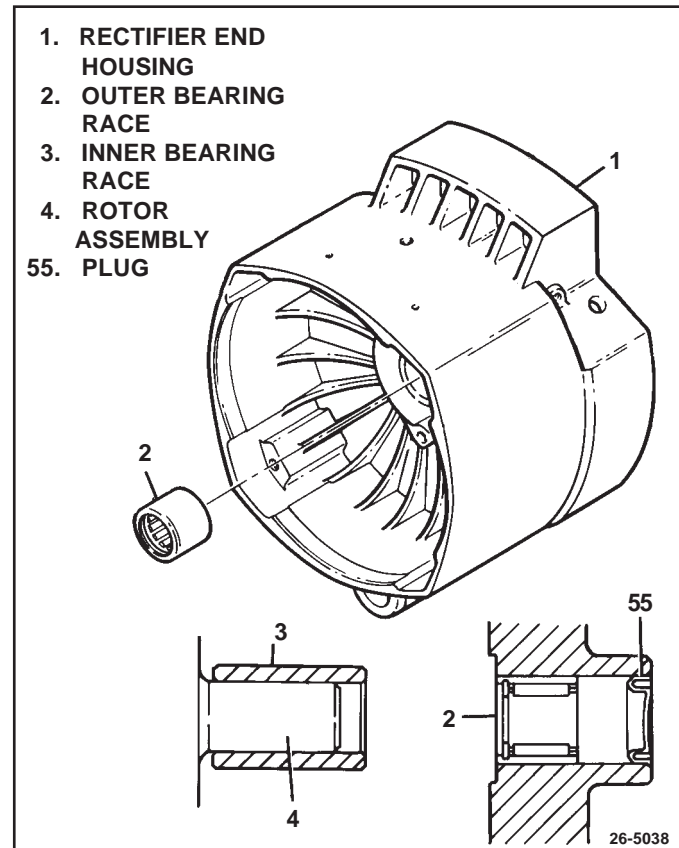

Figure 32. Installing Rectifier End Bearing
6. Position new rectifier end bearing (2) to rectifier housing (1) so that seal will be toward rotor (4) as alternator is assembled. Press against seal side of bearing to assemble into housing until opposite end of bearing is 16.5 mm (.65 in.) from edge of housing. (See Fig. 32) Push cap into other end of housing until outside edges are flush with edge of housing.
7. Add ball and roller bearing lubricant (1948791) until cavity between plug (55) and bearing outer race (2) is about half full, placing grease so that it touches the edge of the outer race in several places around the outside of the bearing.